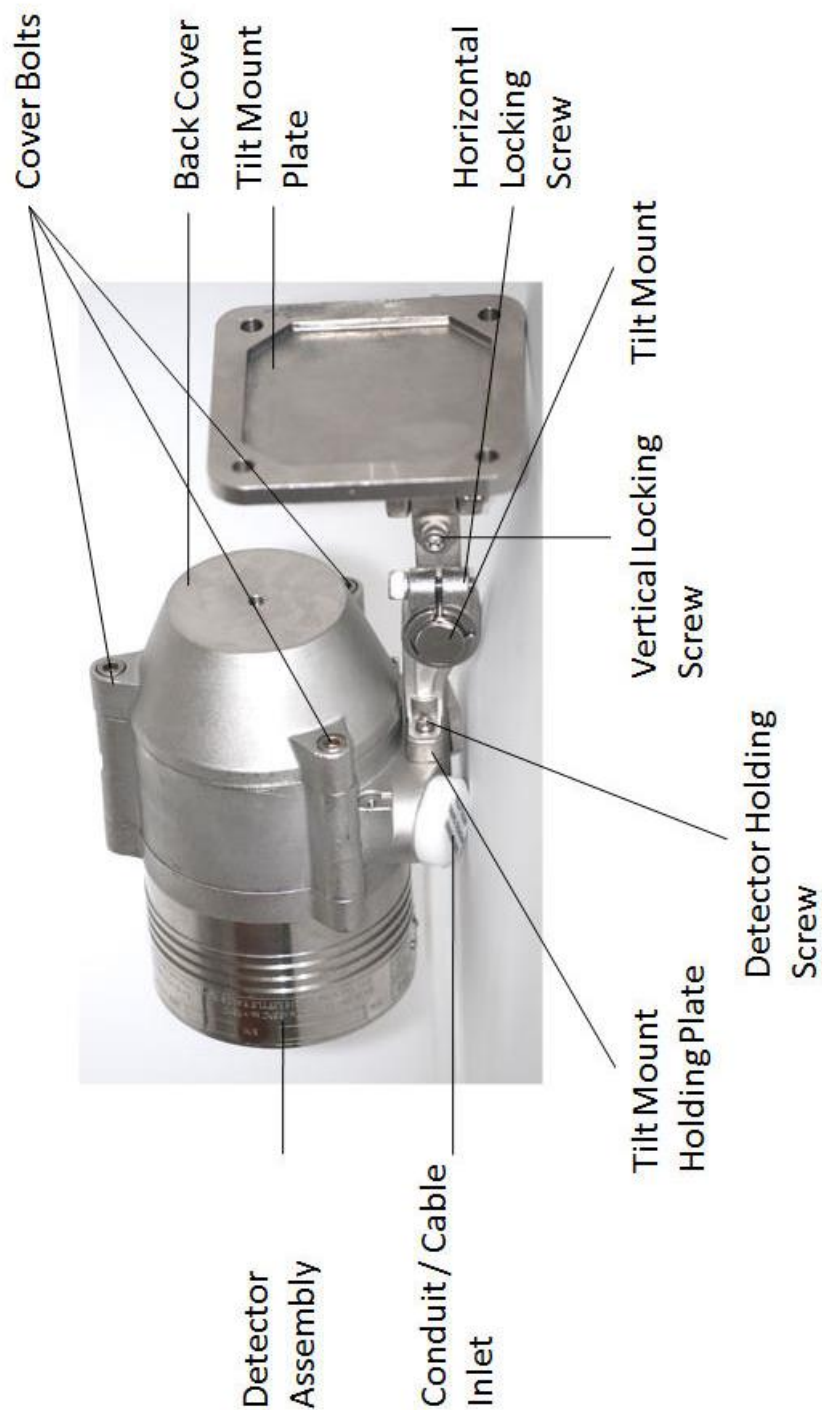

Figure 5: Detector with Tilt Mount
Figure 5 shows the Detector mounted on the Tilt Mount.
- 9 Place and secure the detector's back cover by screwing the three (3) socket-head-screws in the Cover Bolts (Figure 5).